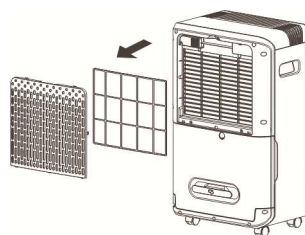

Fig. 4
1. Remove the filter from the back of the machine (fig. 4)